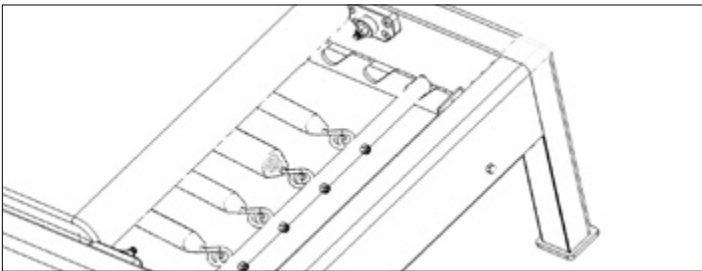

Figure 6
Place the springbar with hook ends facing up into the gear angle as shown in Figure 6. Connect at least (1) spring to an eye bolt on the springbar.